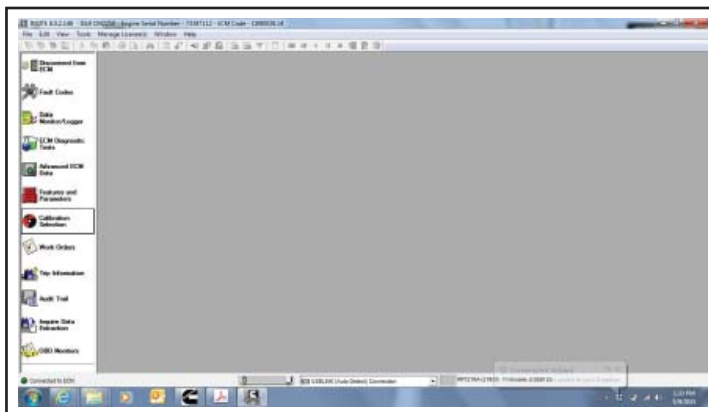

Figure 14 - Choosing Calibration Selection
1.14. Choose Calibration selection. See Figure 14.